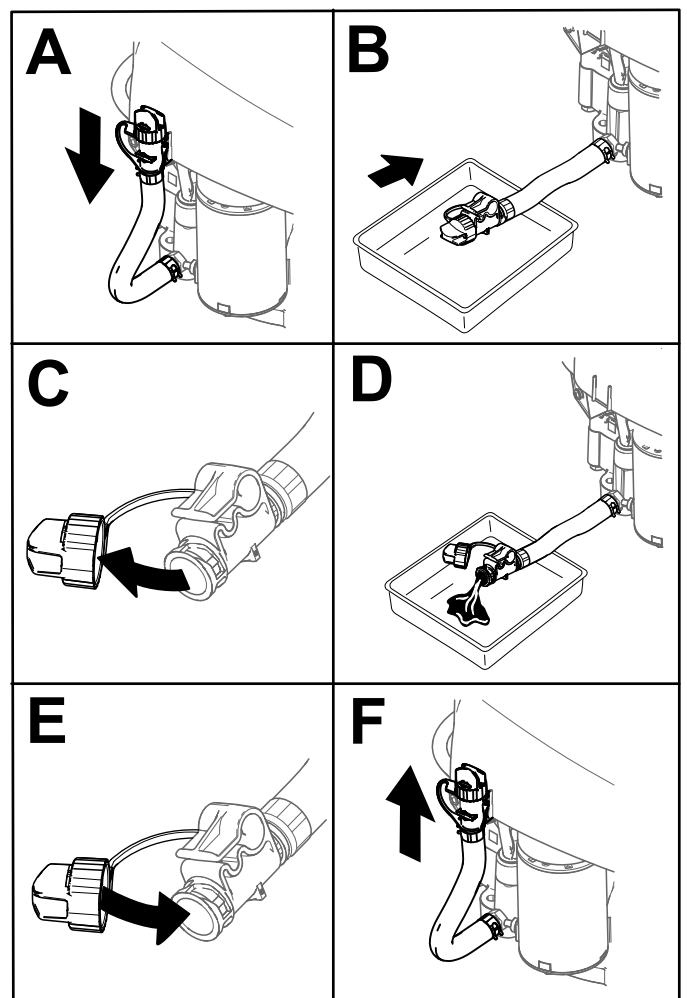

Figure 42
4. Drain the oil from the engine (Figure 42).